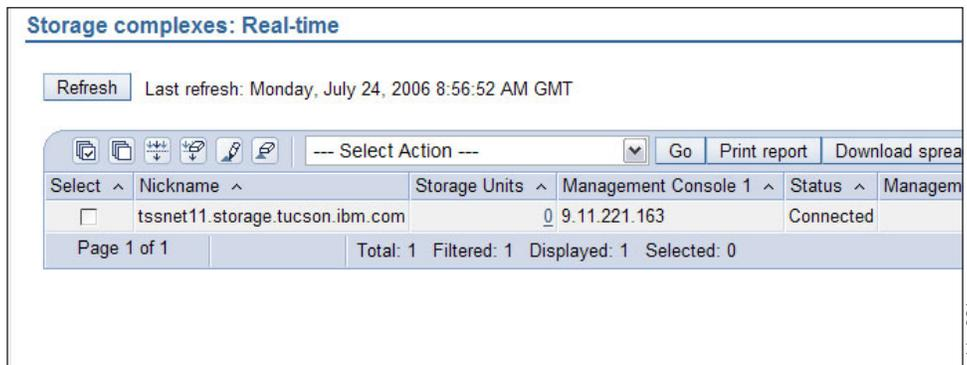

Figure 247. Storage Complexes : Real-time Screen
6. From the resulting list (not shown), select **Manage hardware**, then select **Storage complexes** from that resulting list. Figure 247 displays.
8. Enter into the "Management console 1 IP address" field the TS7700 IP address that was used for TSSC attachment. This address should be in the form '172.31.1.x'. Select **OK**. This returns you to Figure 247 on page 197. Your storage complex should now be listed. For all further DS6000 service information including firmware upgrade, refer to IBM Knowledge Center (<http://www.ibm.com/support/knowledgecenter>).